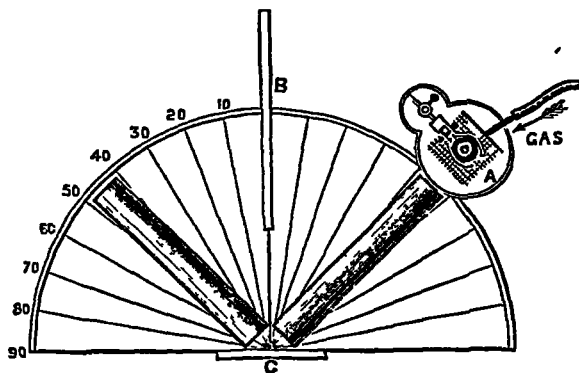

FIG 52
**Reflection of sound**—Draw a semicircle on the table with chalk, graduate it as in fig 52, and arrange the tin tubes along radii each making  $45^\circ$  with the normal Place the sensitive flame at the end of one, A, and several